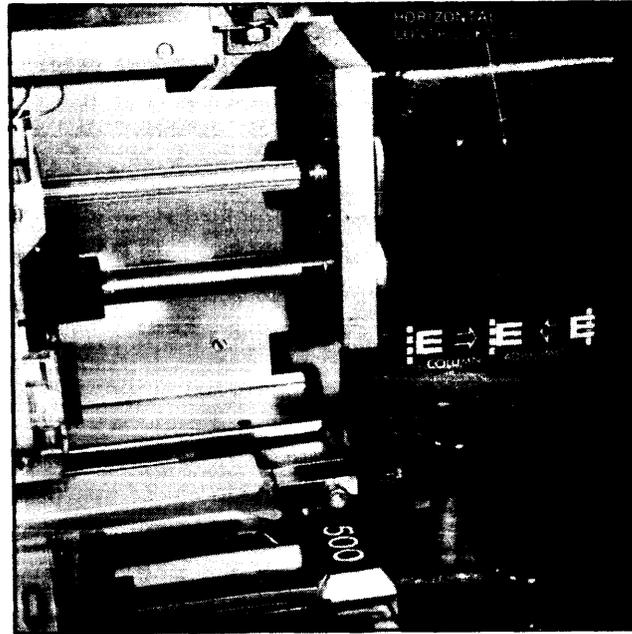

Figure C-24
10. If necessary, adjust horizontal positioning by turning horizontal control knob (Figure C-24). PAPER POSITION indicator illuminates unless paper is correctly positioned.